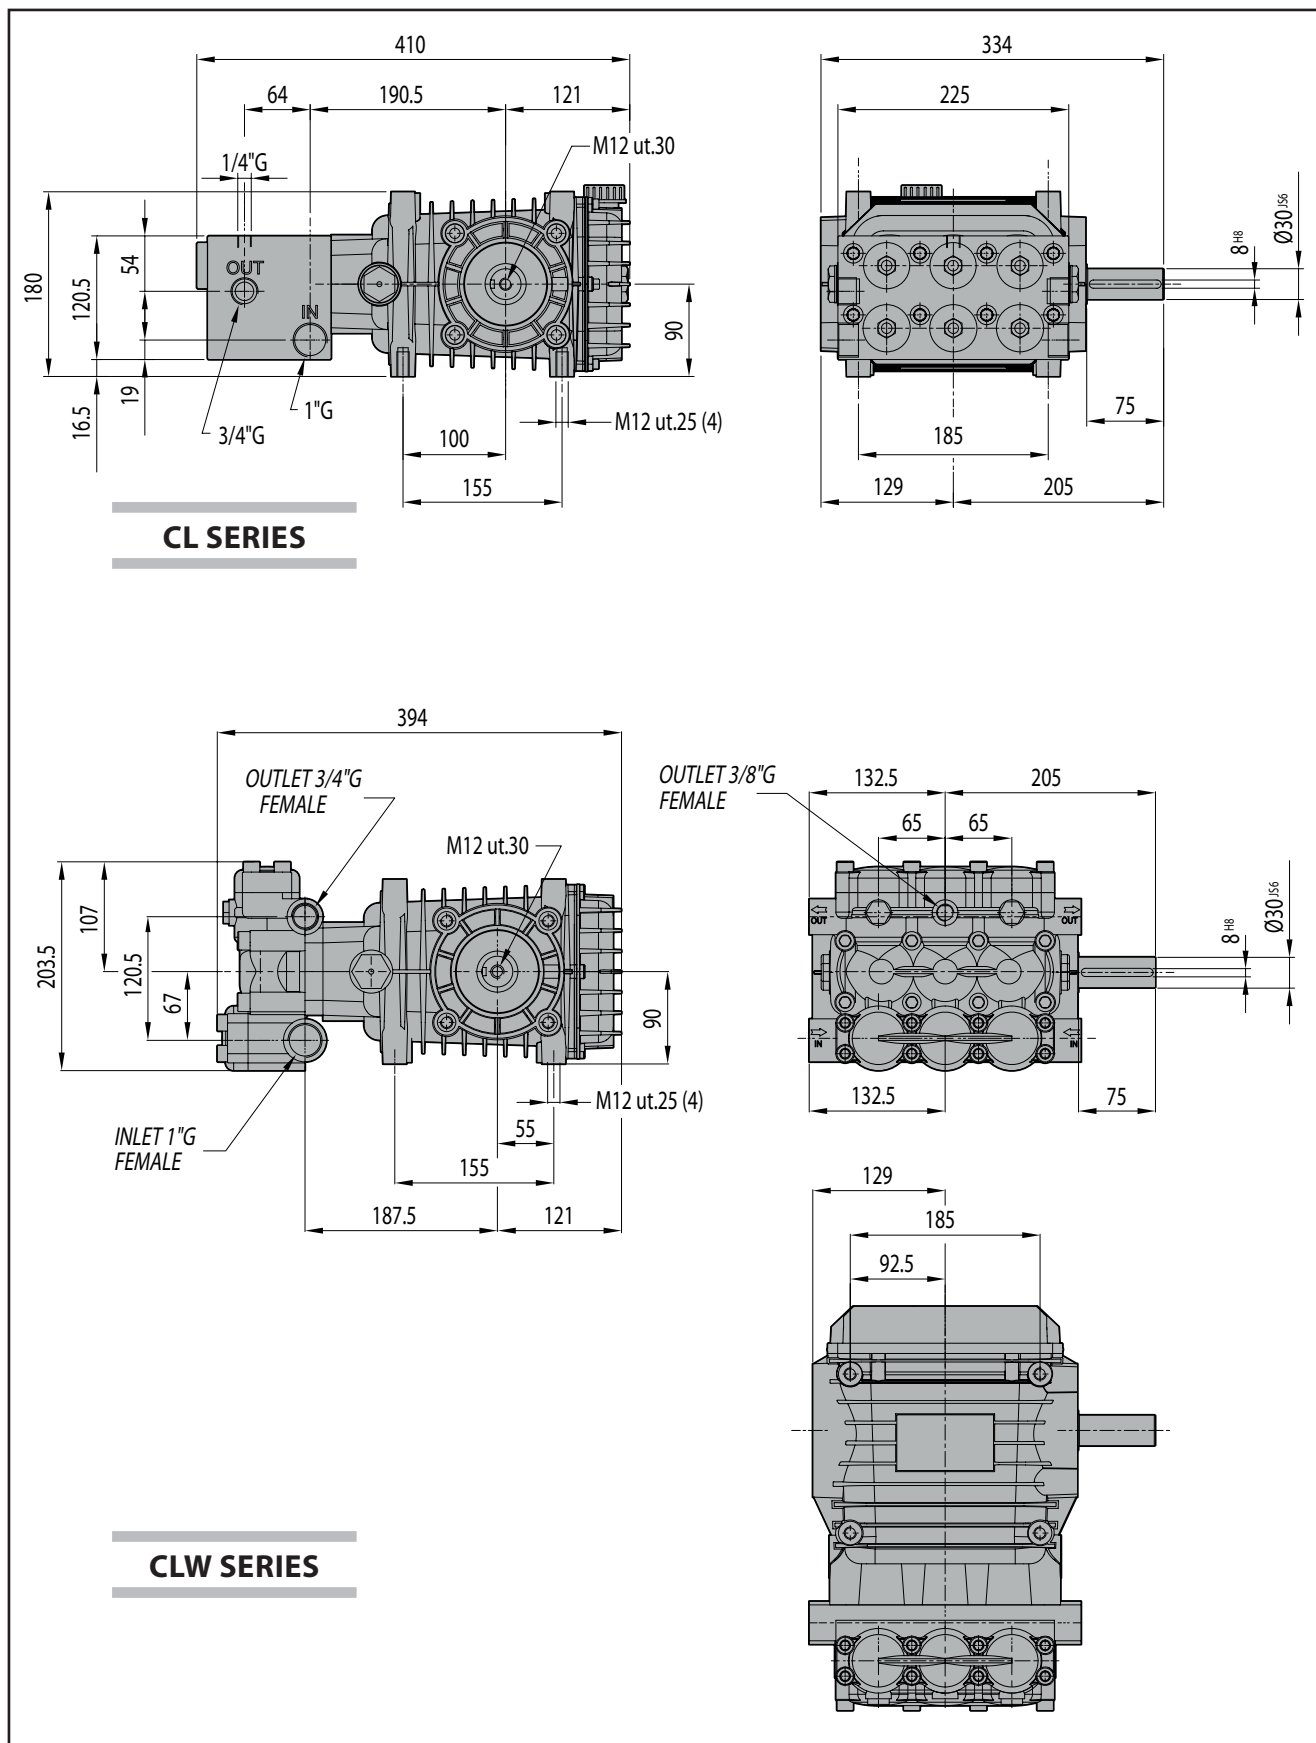

Fig. 1
- *The pump must be stably fastened. The supporting surface must be flat and strong enough to avoid any misalignment between the pump and the motor and any vibrations during operation. To fasten the pump, use the four supporting studs in the pump crankcase. For sizes refer to Fig. 1.*
For the main dimensions, refer to Fig. 1.